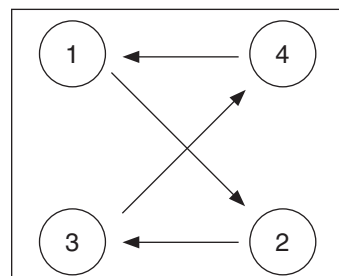

Figure 71
- Tighten the 4-Bolts. Step by step to avoid damaging the seals (**Fig. 71**).